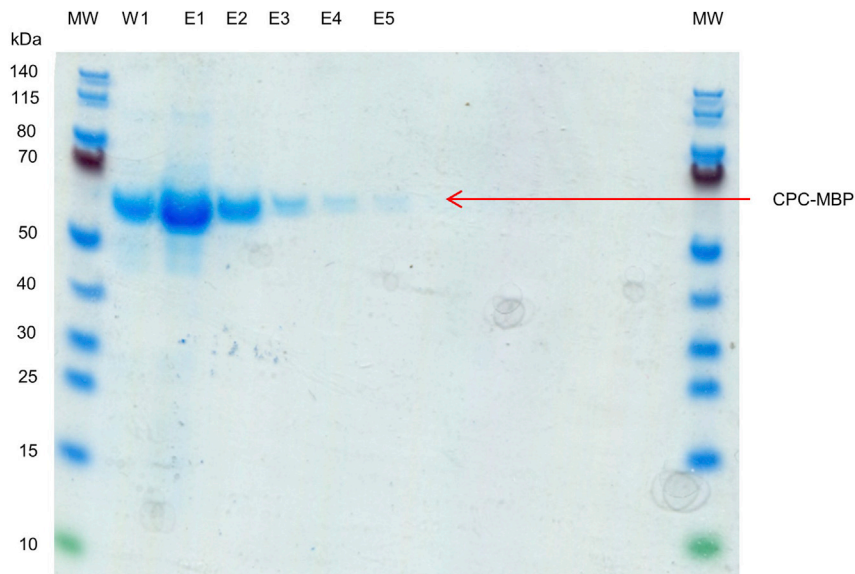

Figure 1. Recombinant CPC-MBP fusion protein purification
15. Run 15 μ L of each elution in an acrylamide gel and quantify using Bradford protein assay, the fractions containing the purified protein (Figure 1).